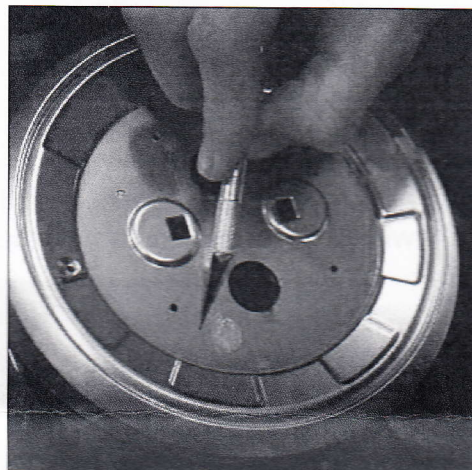

Figure 3
3. Using a razor blade or similar equipment, remove the residual silicone adhesive from the base and both sides of the chrome ring. Refer to Figure 3.